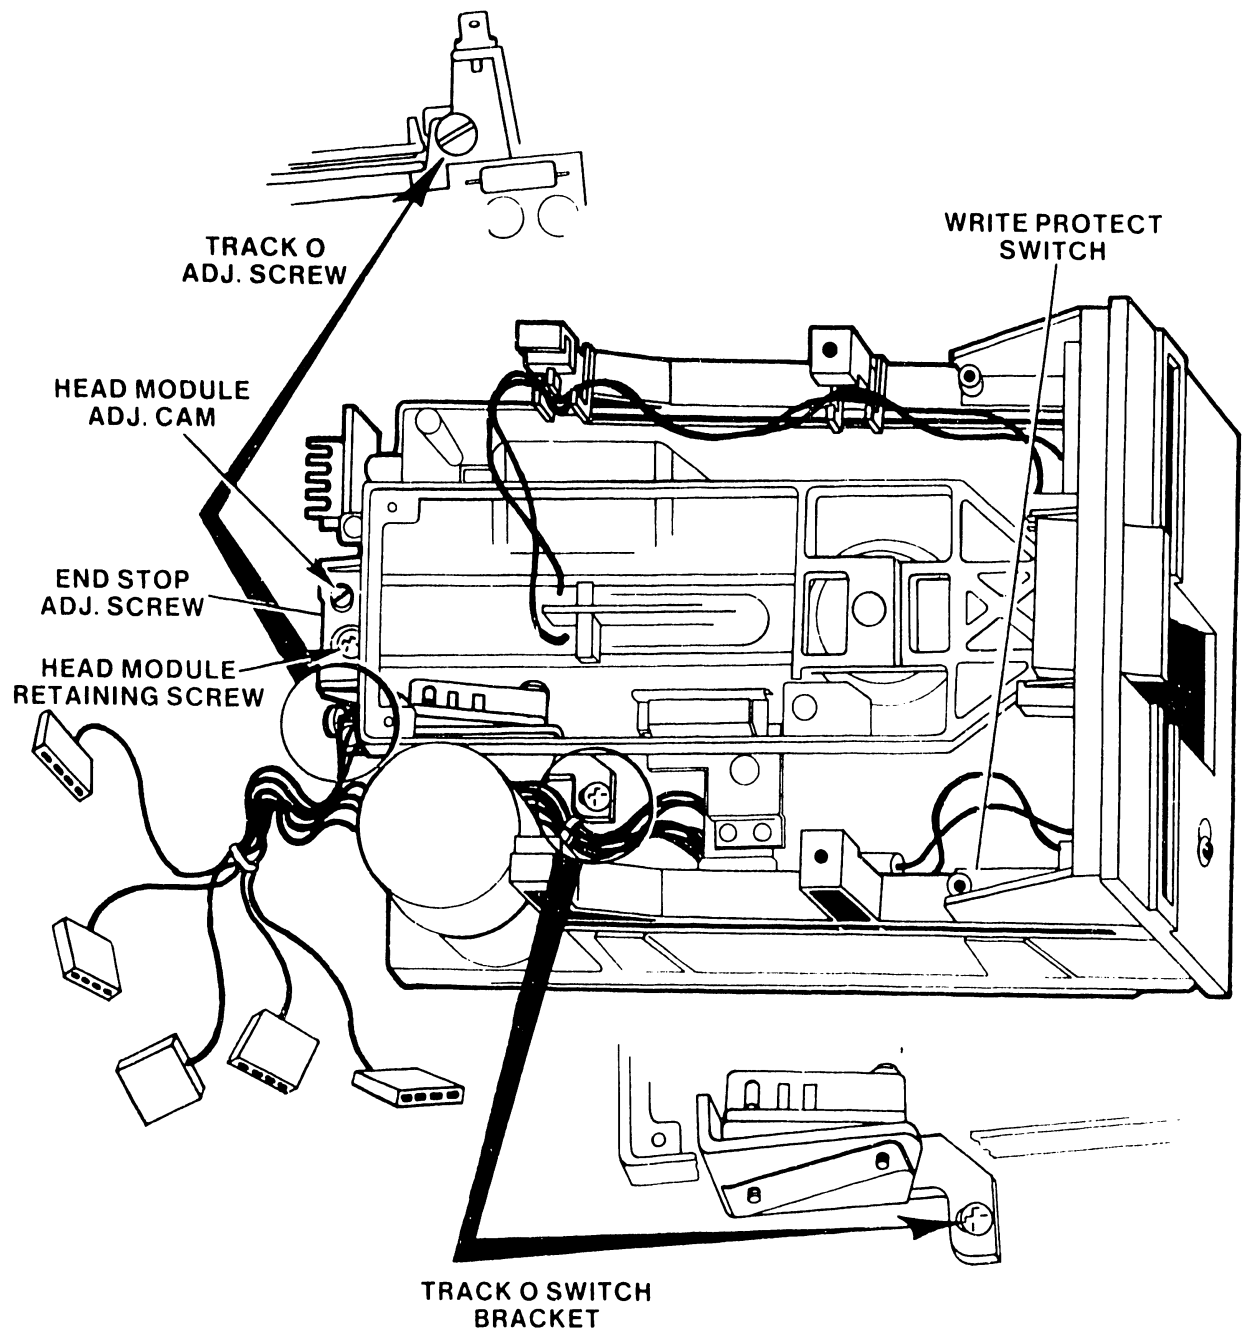

FIGURE 5-29 TRACK 00 ADJUST (TANDON DISK DRIVE)
- Tandon: Loosen (do not remove) the two module retaining screws (Figure 5-28) on the bottom of the chassis, and the one at the top rear of the module (Figure 5-29) Manually rotate the cam at the rear of the module to adjust the pattern. Finish by tightening the three retaining screws.
3. Verify alignment: Command successive seeks to track 00 (key 0), track 16 (key 4), track 32 (key 5), then return to track 16 (key 4). If the patterns shift, repeat adjustment and verify.
2. Loosen retaining screw on the base of the track 00 bracket (Figure 5-29); retighten slightly to provide some friction on the bracket. Turn track 00 adjustment screw CCW to maximum.
4. To adjust switch (Figure 5-29) Loosen retaining screw, remove switch assembly, and set switch either higher or lower as required.